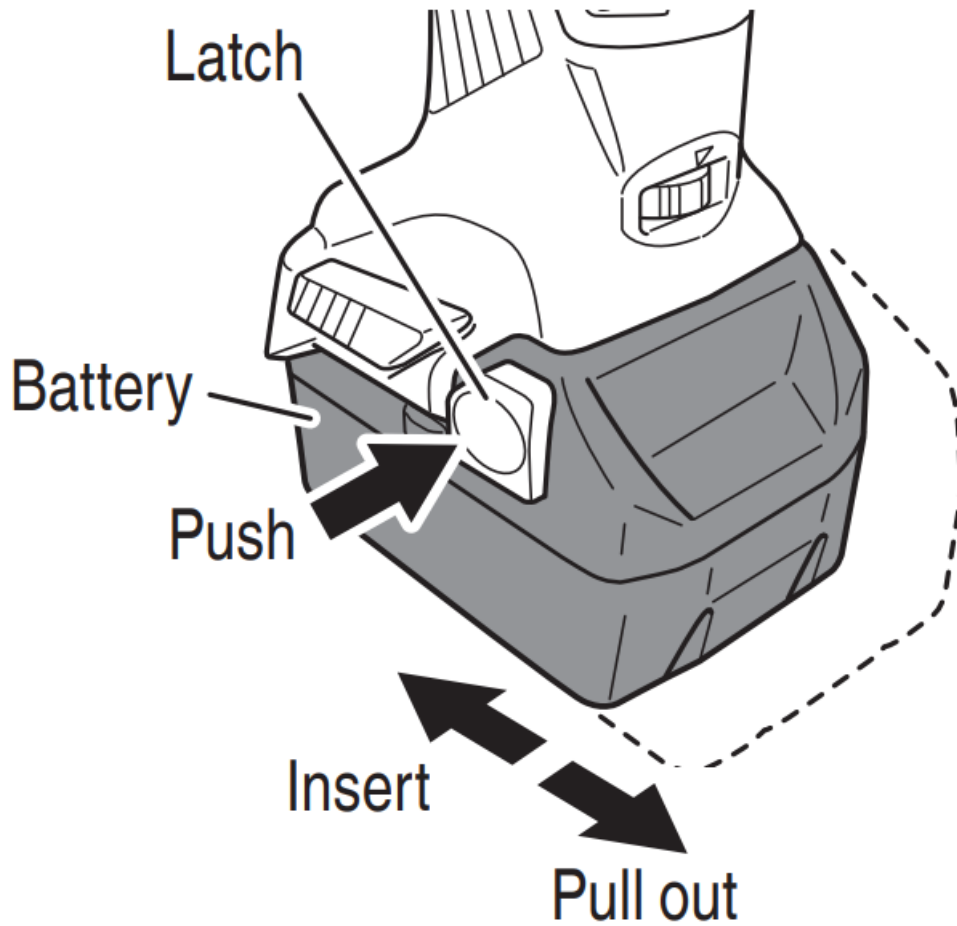

Fig. 5
1. Battery removal Hold the handle tightly and push the battery latch to remove the battery (See Fig. 5).
Insert the battery while observing its polarities (see Fig. 5).